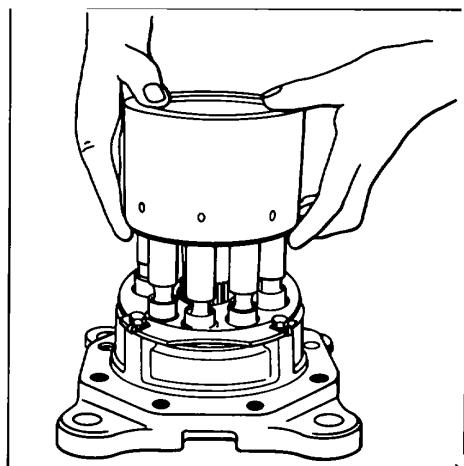

Figure 198.
Remove the cylinder block (40) by lifting it straight up off the piston assemblies. See Fig. 198.